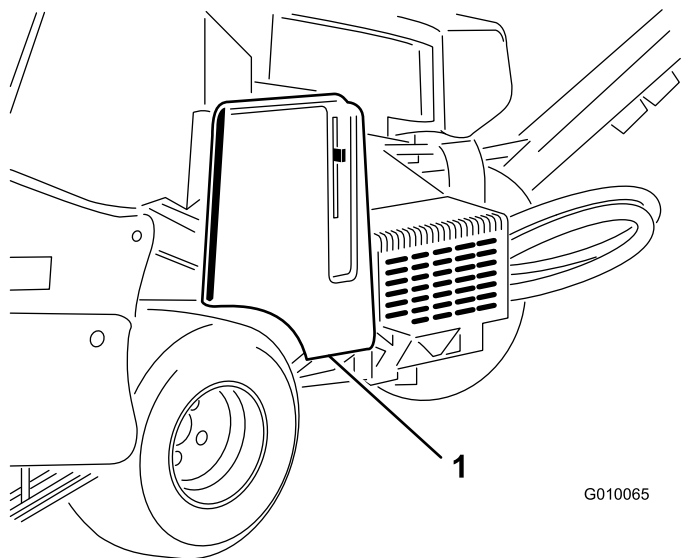

Figure 56
1. Unlatch and remove the belt cover (Figure 56).